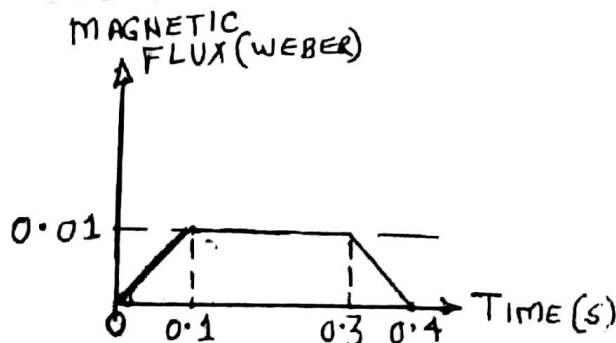

FIGURE 4C
C. An ideal lossless voltage transformer's core is being subjected to the magnetic flux variation sketched in FIGURE 4C. The number of turns in the primary winding is 1000 and that in the secondary winding is 100. Sketch the behavior of primary electromotive force (e.m.f.) with time. [2]